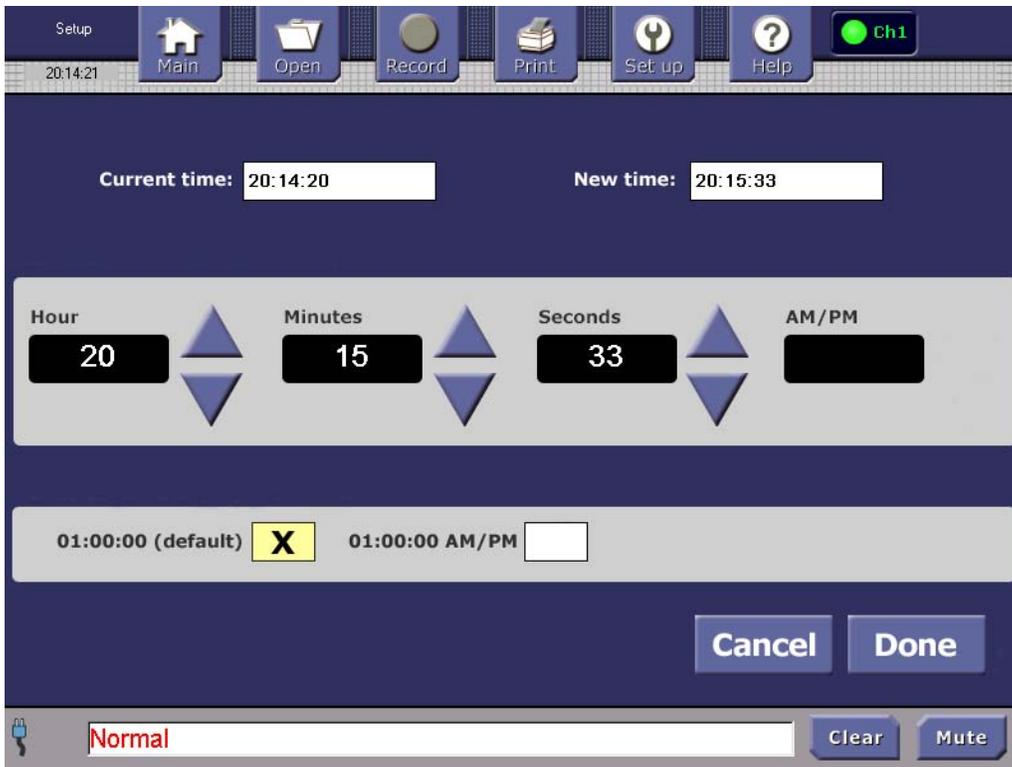

Figure 19. Set Up Current Time Screen
4. The **Set Up Current Time** screen appears, as shown in Figure 19. Tap the arrows to scroll to the current time.